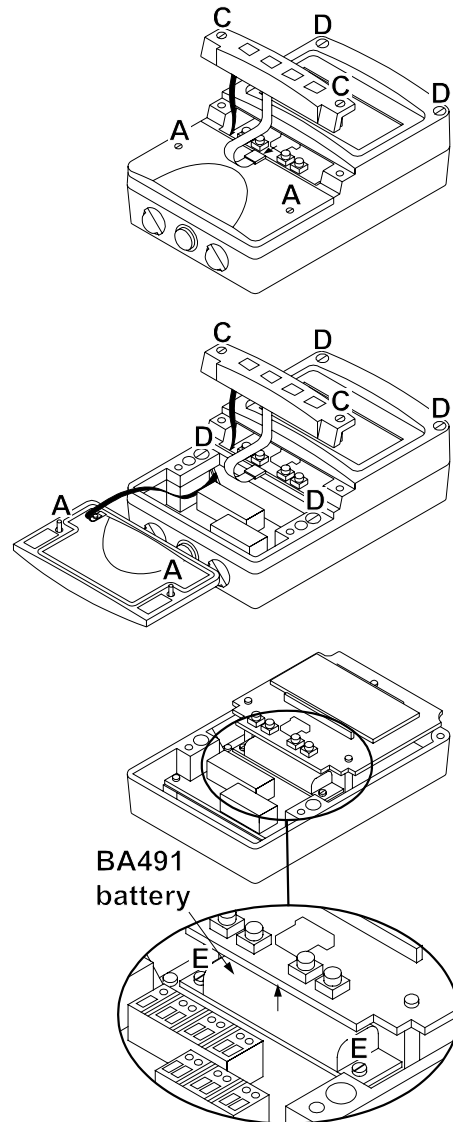

Fig 5 Replacement of internal battery
The discharged battery may be removed and the replacement fitted while the BA544D rate totalisers is in situ. Fig 5 together with the following notes illustrate the replacement sequence:
- d. Remove the two 'E' screws securing the BA491 battery and gently pull the battery away from the instrument printed circuit board – see Fig 5.